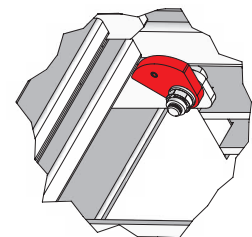

Fig. 9.4 Detail
3. Hang the pre-assembled ladder onto the access platform. Make sure the safety flaps are completely engaged (Fig. 9.4 Detail).